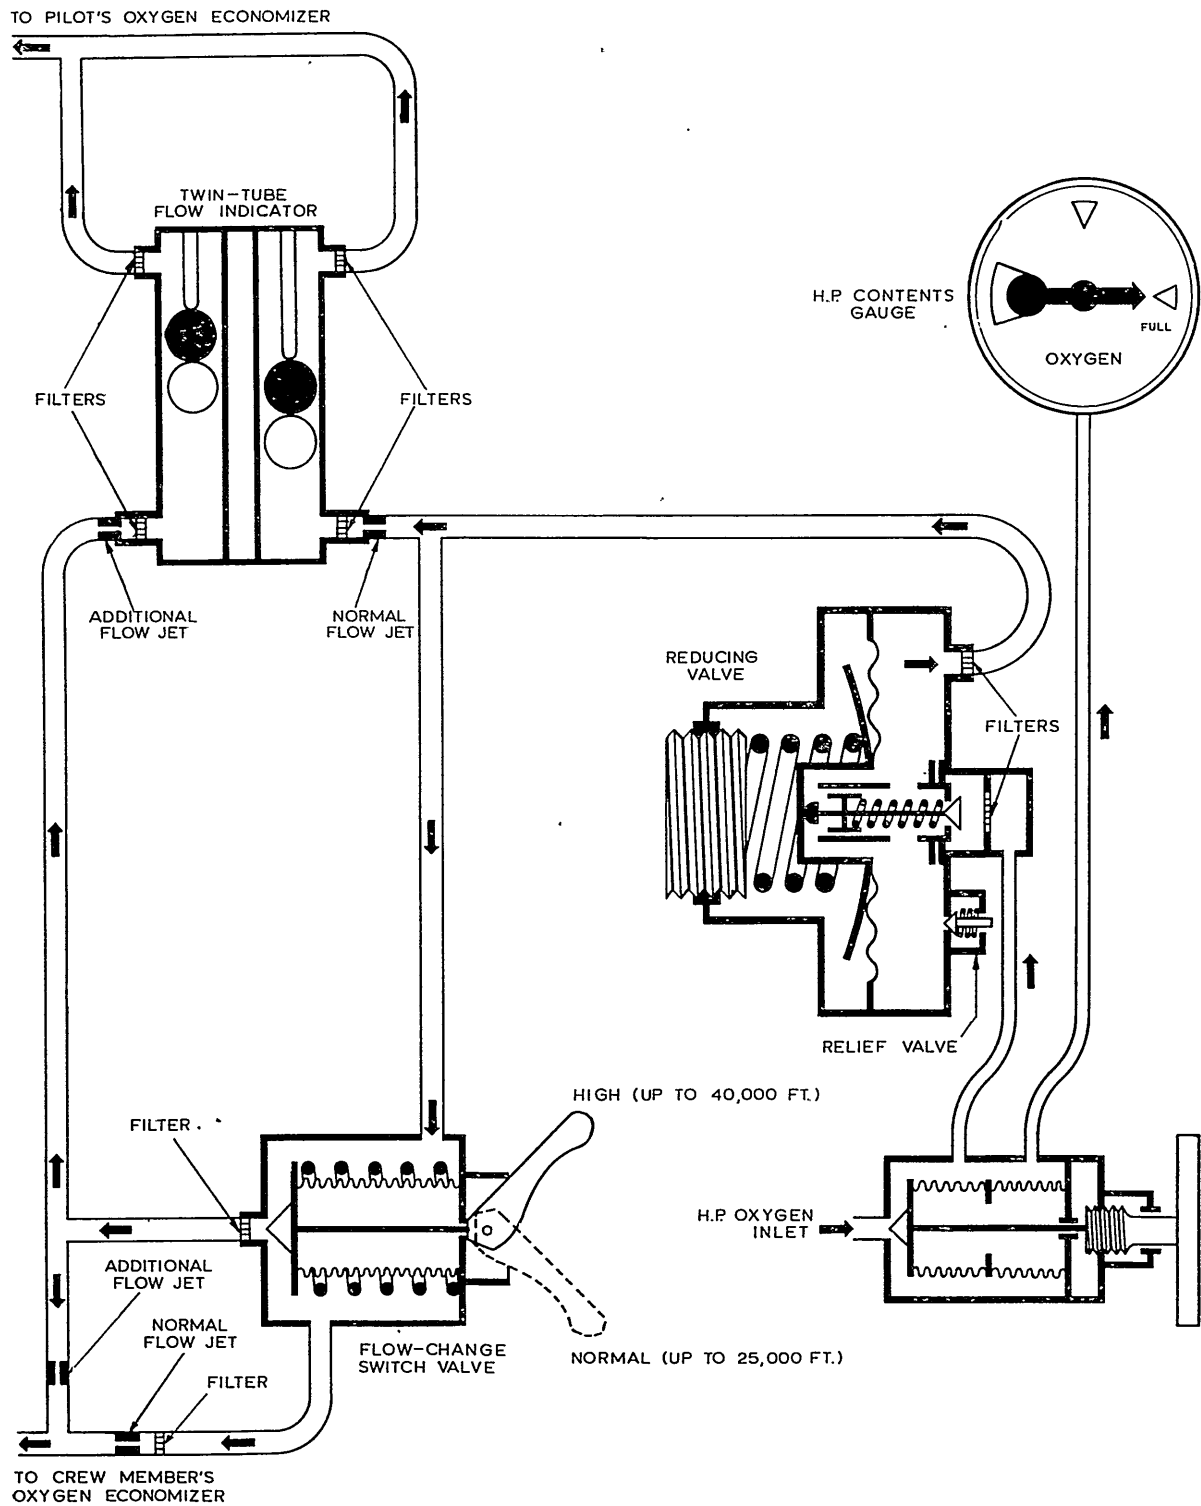

Fig. 3. Schematic diagram of Mk. 11B regulator
2. The unit is employed in two-seater aircraft and has two outlet connections which deliver a metered flow of oxygen to two crew members as shown diagrammatically in fig. 3. The regulator is used in conjunction with an oxygen economizer, Mk. 4.